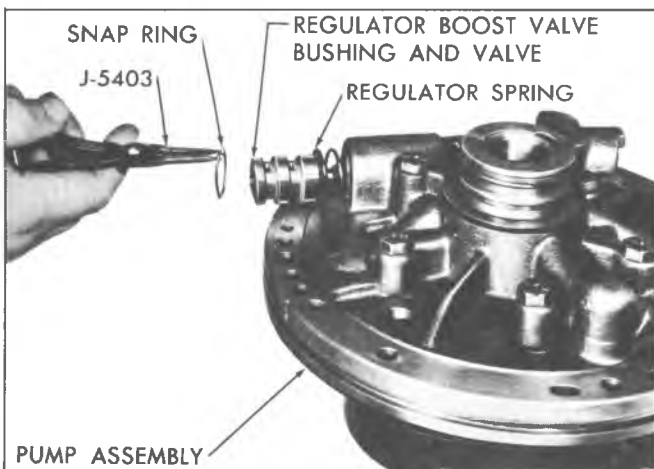

Fig. 60T--Removing Pump Regulator Valve Snap Ring
2. Compress regulator boost valve bushing against pressure regulator spring and remove snap ring, using J-5403 pliers (fig. 60T).